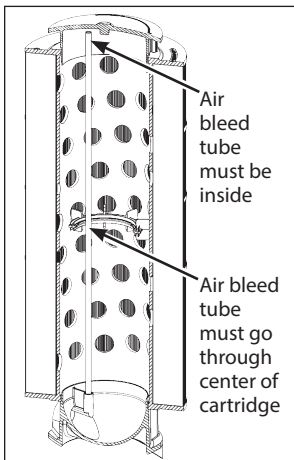

Figure 5 - Air bleed tube
1. Install the filter cartridge in the base of the tank, being careful to avoid the flow diverter in the inlet. Ensure the air bleed tube is correctly installed (Figure 5). Push down firmly to seal the cartridge.